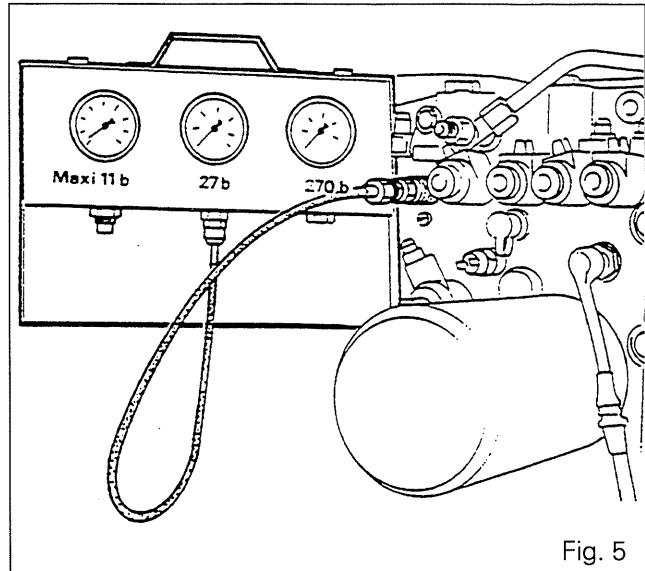

Fig. 5
- Connect a pressure gauge with a coupler 3582045 M1 on the diagnostic point on the right-hand hydraulic cover (Fig. 5).